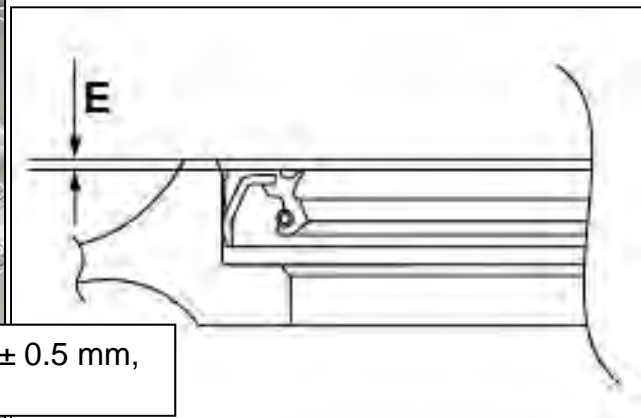

Figure 222
- Drive the converter housing oil seal evenly so that converter housing oil seal sits below the case by Dimension **E**, as shown in Figure 222.